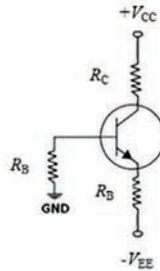

Figure 5.29 Ch 5: No. 11, self-test
11. Determine the saturation and cutoff values of $I_{C(sat)}$ and $V_{CE(cutoff)}$ for the circuit shown in Figure 5.29, if R_B is $45 \text{ k}\Omega$, R_C is $400 \text{ }\Omega$, R_E is $2 \text{ k}\Omega$, V_{CC} is 15 V , V_{EE} is -15 V , and β_{DC} is 150. (Assuming a silicon BJT)